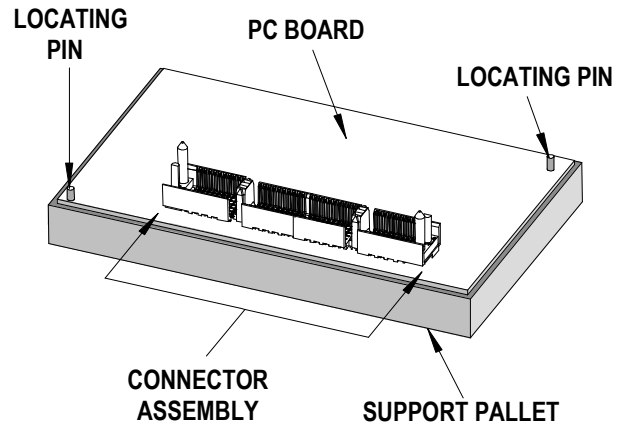

Figure 2-6
2. Locate the pre-loaded board into the support pallet. See Figure 2-6.